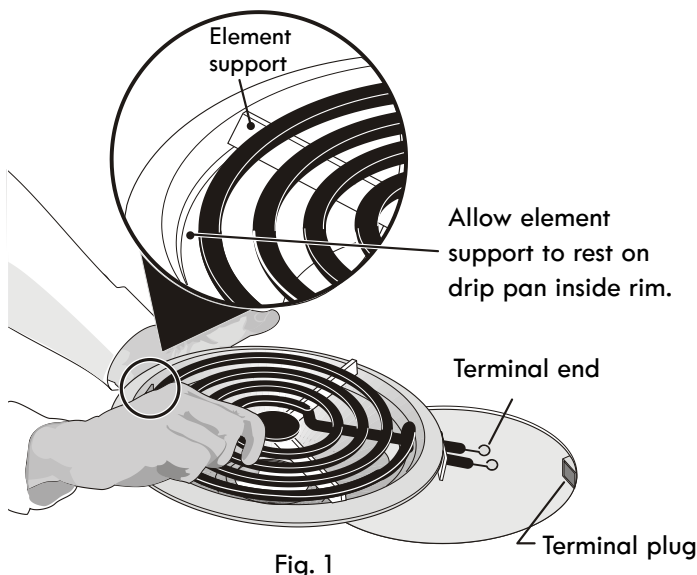

Fig. 1
2. While holding the drip bowl and surface element, gently pull the terminal end out from terminal plug (See Fig. 1).